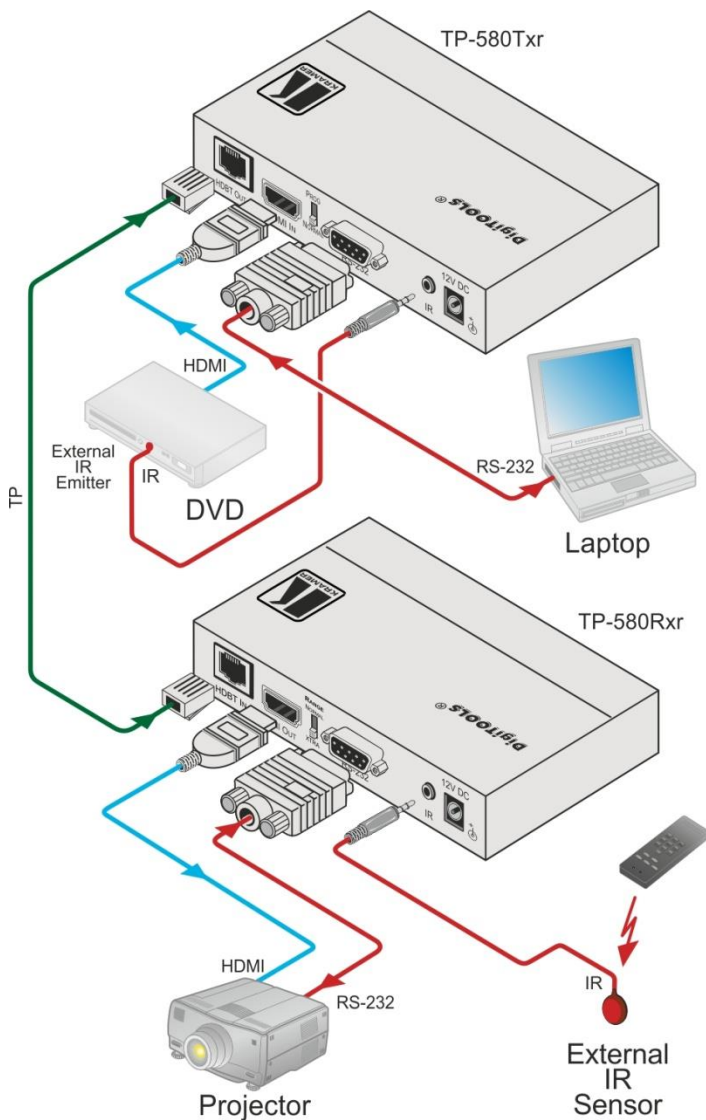

Figure 3: Connecting the TP-580Txr/TP-580Rxr Transmitter/Receiver
| Figure 3: | Connecting the TP-580Txr/TP-580Rxr Transmitter/Receiver | 9 |
You can use the **TP-580Txr** *HDMI Line Transmitter* and the **TP-580Rxr** *HDMI Line Receiver* to configure an HDMI transmitter/receiver system, as shown in the example in Figure 3.
5. 12V DC power adapter to the power socket and connect the adapter to the mains electricity (not shown in Figure 3).
10. 12V DC power adapter to the power socket and connect the adapter to the mains electricity (not shown in Figure 3).